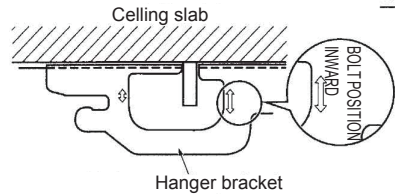

Fig.6
* Make sure that extended suspension bolt from the ceiling stays inside the appointed position. Readjust the hanger bracket when it is out of the appointed position. (Refer to Fig.6)